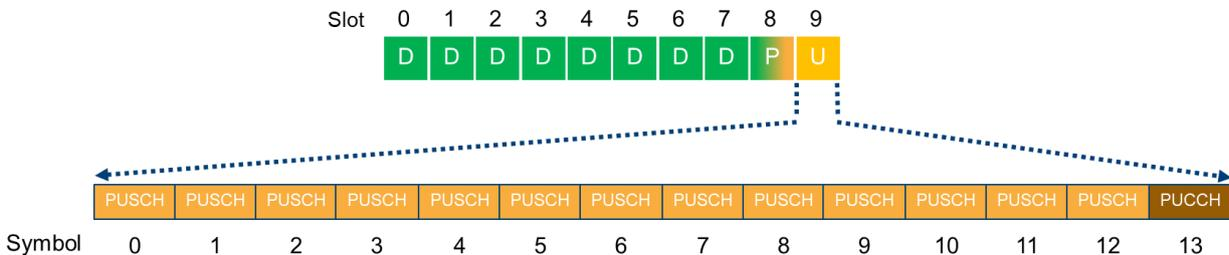

Figure 13 TDD uplink slot configuration for maximum downlink throughput
- ▶ Set PUSCH in slot 9 to 13 symbols (symbol 0-12) and set last symbol for PUCCH. The resource allocation of UL slot 9 is illustrated below in Figure 13.